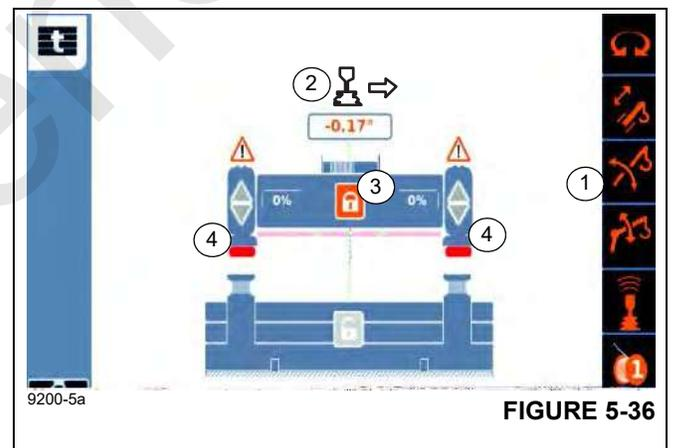

FIGURE 5-36
- The lifting cylinders must be fully retracted – symbol (4), (Figure 5-36).
- The swing gear must be switched ON – symbol (1), (Figure 5-36).
- Symbol (3), (Figure 5-36) active.
- Symbol (2), (Figure 5-36) displayed.